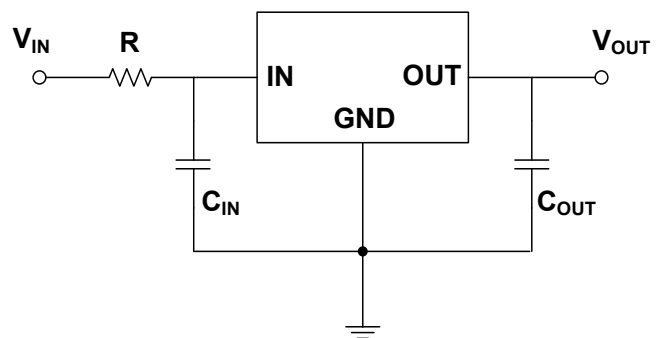

Figure 9-2. Resistance is used at IN
2. Place a resistor with appropriate resistance in series before the IN of the voltage regulator, which can help the voltage regulator share part of the energy in case of surge. The resistance value of the resistance should not be too large. The specific resistance value depends on the application of the circuit. Generally, the resistance value of this resistance does not exceed 20Ω. As shown in Figure 9-2.
For the CJ78L05, CJ78L06, CJ78L08, CJ78L09, it is recommended that the input voltage should not exceed 16V and the peak voltage should not exceed 30V. For the CJ78L12, CJ78L15, it is recommended that the input voltage should not exceed 18V and the peak voltage should not exceed 35V. **When the input voltage of the operating circuit may not meet the application conditions described above, it is recommended to adopt the circuit layout shown in Figure 9-2 in the circuit design.**
The CJ78L series can obtain better transient response with the help of output capacitance. However, if the output capacitor is relatively large, the surge current generated by the charging of the output capacitor will also be large at the moment of power on of the regulator, and the large surge current passing through the regulator may damage the internal circuit. When the output capacitance is large, adopting the circuit design shown in Figure 9-2 will reduce the possibility of damage to the device due to large surge current to a certain extent. It is recommended that the selection of output capacitor should not exceed 20 μ F. **If the selection of output capacitor exceeds 20 μ F, it is recommended to adopt the circuit design in Figure 9-2 to reduce the possibility of accidental failure of the device due to large surge current during power on.**
It is recommended that the output capacitor (C_{OUT}) should not exceed 20 μ F. When the output capacitor (C_{OUT}) exceeds 20 μ F, it is recommended to use the circuit layout shown in Figure 9-2. See *Large Output Capacitance* for more details.